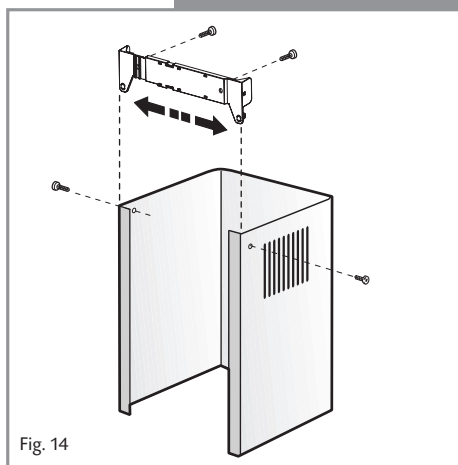

Fig. 14
3. Fit the chimney section and secure to the mounting bracket with the supplied screws (fig 14).